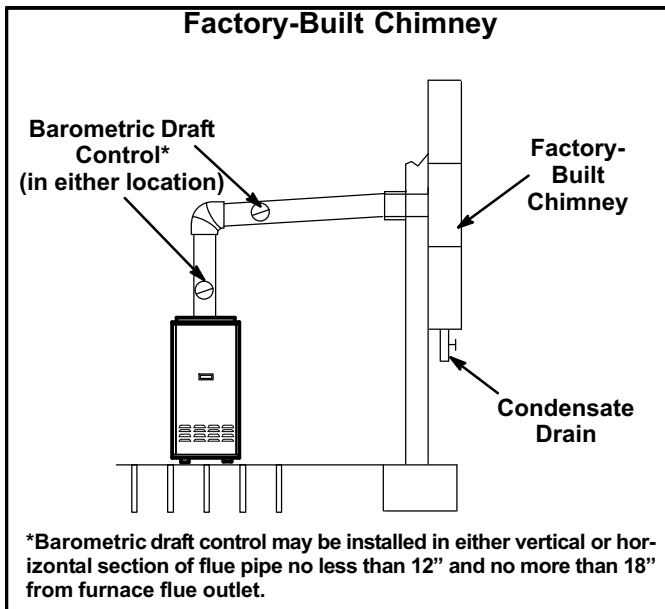

Figure 5
- 15 - All vent pipe run through unconditioned areas or outside shall be constructed of factory-built chimney sections. See figure 5.